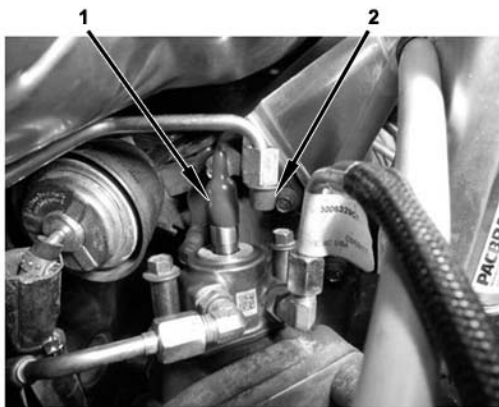

Figure 36 HCI Fuel Supply Line
13. Remove HCI fuel supply line cap (1) and HCI fuel inlet cap (2) (Figure 36).